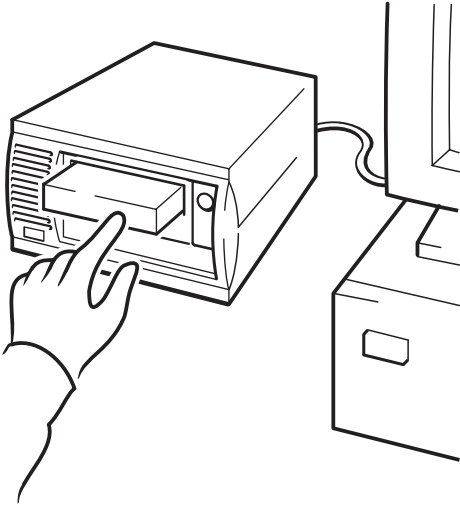

Figure 10a: using HP OBDR, step 1
- 1 Insert the latest bootable cartridge in the tape drive (see Figure 10a). The cartridge must be written by a backup application that writes data to tape in CD-ROM format.